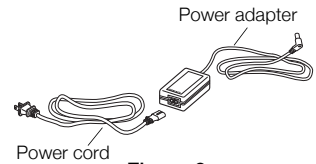

Figure 3
- 1 Plug the power cord into the power adapter. See Figure 3.